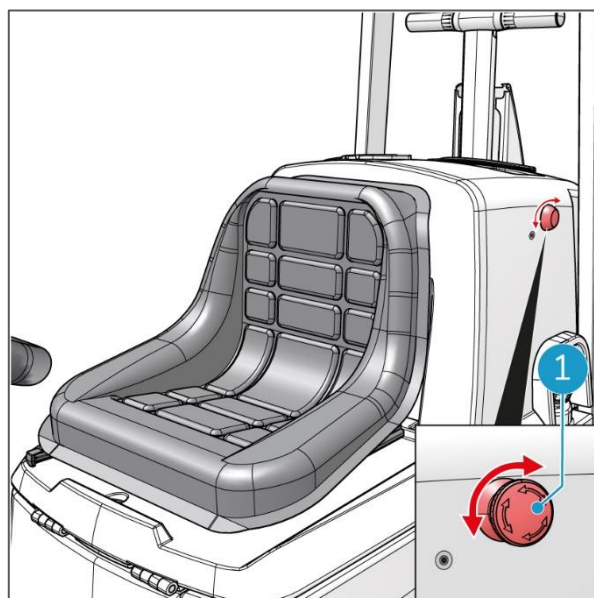
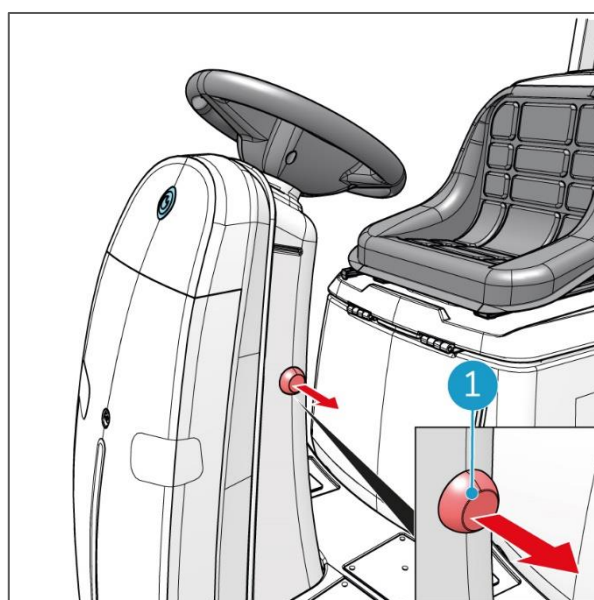

Figure 9
Figure 10
- the emergency button (Figure 9, pos 1) positioned on both the sides.
- the emergency cut-out button (Figure 10, pos 1) on the steering column.
The emergency buttons (Figure 9, pos 1) and the emergency cut-out button (Figure 10, pos 1) on the steering column can be activated by pushing the button. Deactivation of the emergency stop buttons is done by turning the button left or right. Deactivation of the emergency cut-out button is done by pulling the button out. Restart of the machine might be necessary.